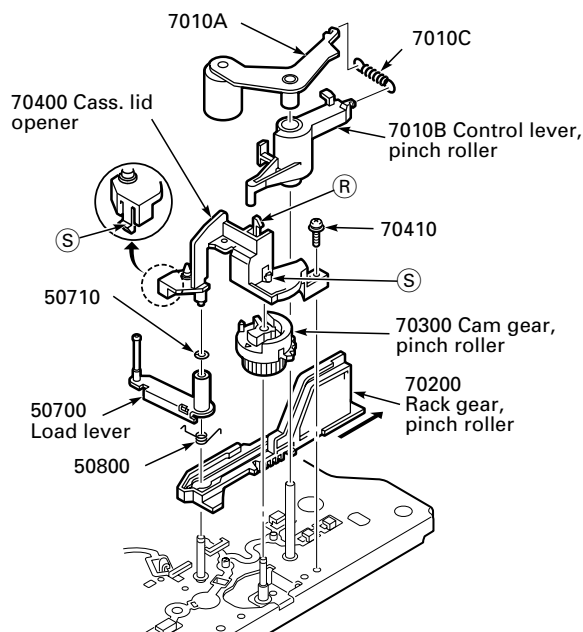

Fig. 8.29
- Unhook the pinch roller spring (7010C) and remove the pinch roller lever (7010A, Fig. 8.29).
- Undo the screw (Pos. 70410), disengage the two clamps (S) and remove the cassette lid opener (70400, Fig. 8.29).
- Disengage the clamp (R) of the cassette lid opener (70400) and remove the pinch roller control lever (7010B, Fig. 8.29).
- Pull off the pinch roller cam gear (70300, Fig. 8.29).
- Remove the retaining washer (50710), remove the load lever (Pos. 50700) and the load lever spring (50800, Fig. 8.29).
- Slide the pinch roller rack gear (70200) fully backwards and remove it (Fig. 8.29).
- After fitting the control slide (70200) push this in direction of the arrow to its end stop (Fig. 8.29).